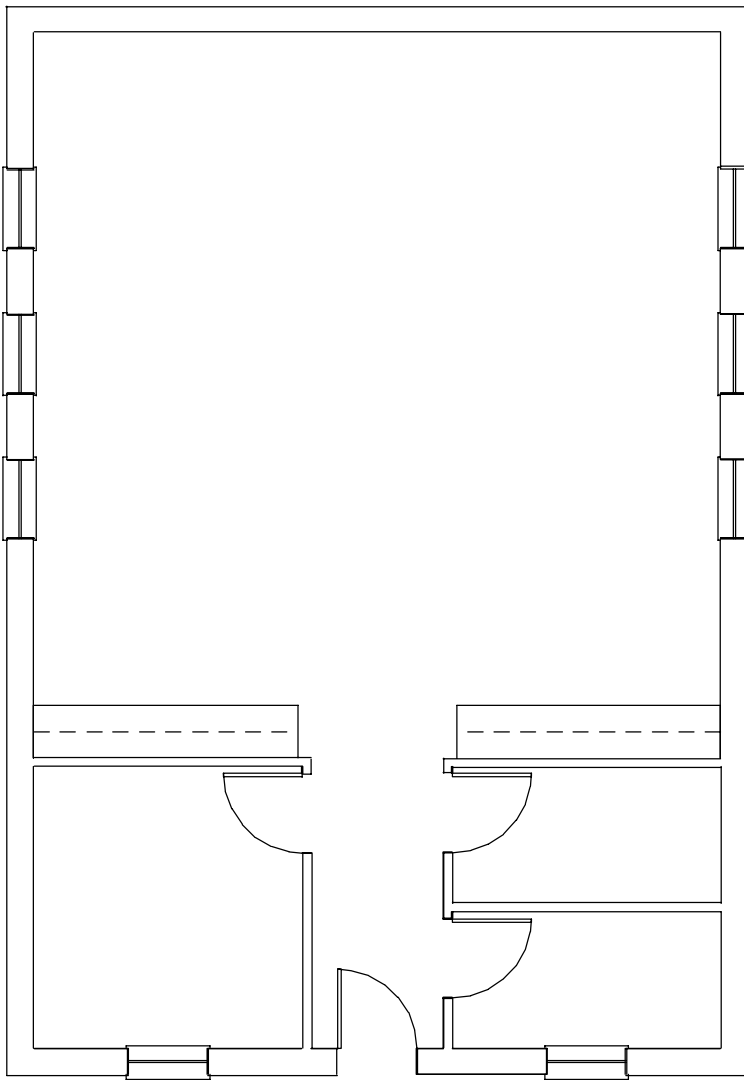

Figure 3.51: The Schoolhouse floor plan.
26. Click E on the Navigation Pad to view the extents of the drawing. Your plan should look like Figure 3.51.